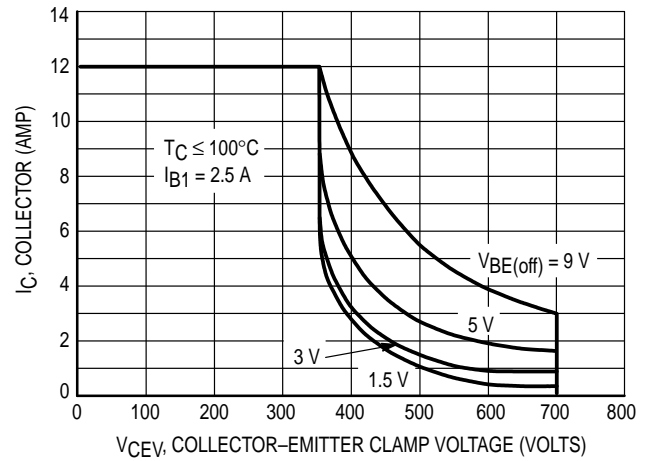
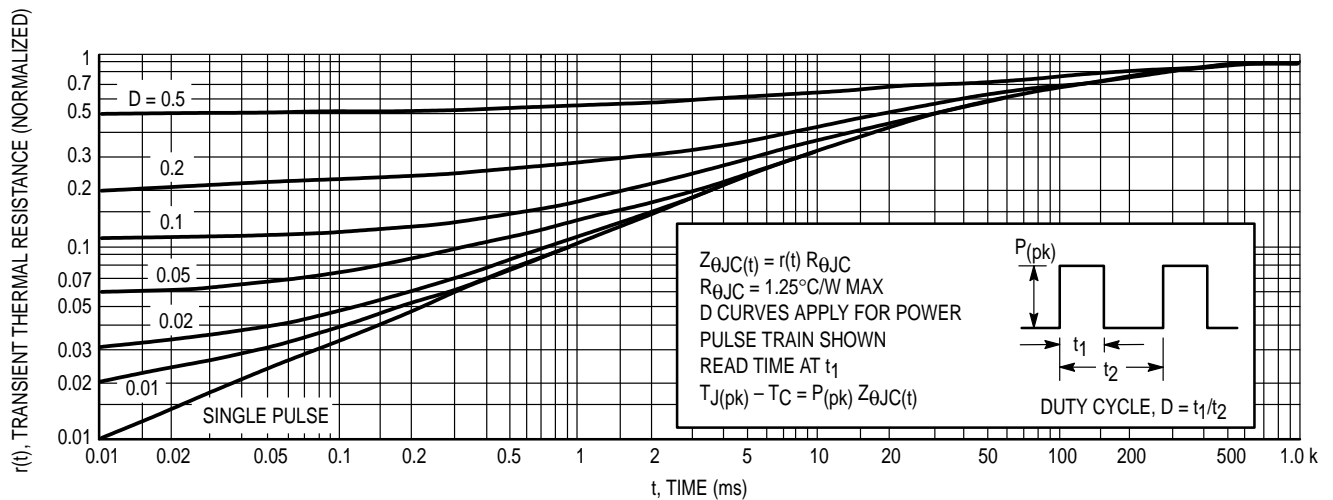

Figure 2. Reverse Bias Switching Safe Operating Area
Figure 4. Typical Thermal Response [$Z_{\theta JC}(t)$]
$T_{J(pk)}$ may be calculated from the data in Figure 4. At high case temperatures, thermal limitations will reduce the power that can be handled to values less than the limitations imposed by second breakdown. Use of reverse biased safe operating area data (Figure 2) is discussed in the applications information section.
- (3) The base drive conditions are within the specified limits shown on the Reverse Bias SOA curve (Figure 2).